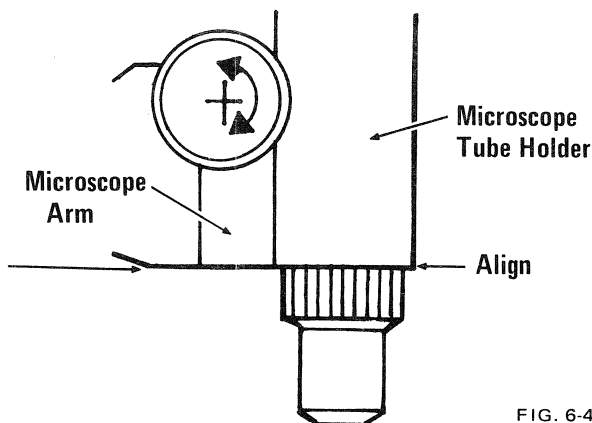

FIG. 6-4
- Rotate focus knob to align edge of microscope tube holder with edge of microscope arm. Fig. 6-4.
- a) Align the edge of microscope tube holder with the edge of the microscope arm. Fig. 6-4.
- c) Remove any focus spacers (11) from 1st lens group housing (3); place first lens group in holding tool 3650523.
- b) Align the edge of microscope tube holder with the edge of microscope arm. Fig. 6-4.
- c) Loosen retainer ring (35) then place second lens group and housing in Tool No. 3650524.
- b) Align the edge of microscope tube holder with the edge of the microscope arm. Fig. 6-4.
- c) Align the edge of microscope tube with edge of microscope arm. Fig. 6-4.
- b) Align the edge of microscope tube with the edge of the microscope arm. Fig. 6-4.
- k) Align edge of microscope holder with the edge of the microscope arm. Fig. 6-4.